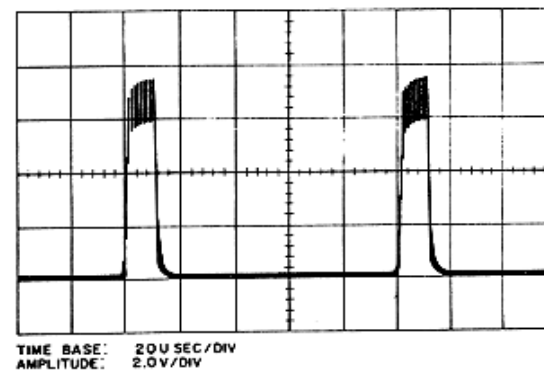

Figure 6.17 – Q18, Emitter Waveform
k. Reconnect oscilloscope to emitter of keyed oscillator Q18 (or bottom of R54). The observed 10 kHz waveform should resemble the one shown in figure 6.17.